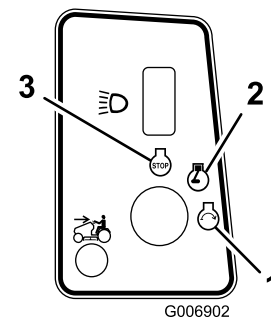

Figure 19
5. Turn the ignition key clockwise and hold it in the Start position (Figure 19). When the engine starts, release the key.
2. Turn the ignition key to Off, wait for all moving parts to stop, and remove the key before leaving the operating position. (Figure 19).